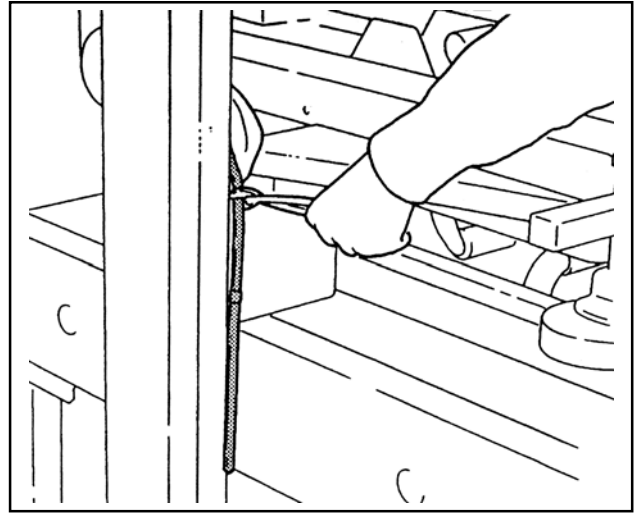

Figure 2-4—Cut the Plastic Straps
- Cut the plastic straps that attach the top head to the frame as shown in Figure 2-4. Retain the tool and spare parts kit for later use.